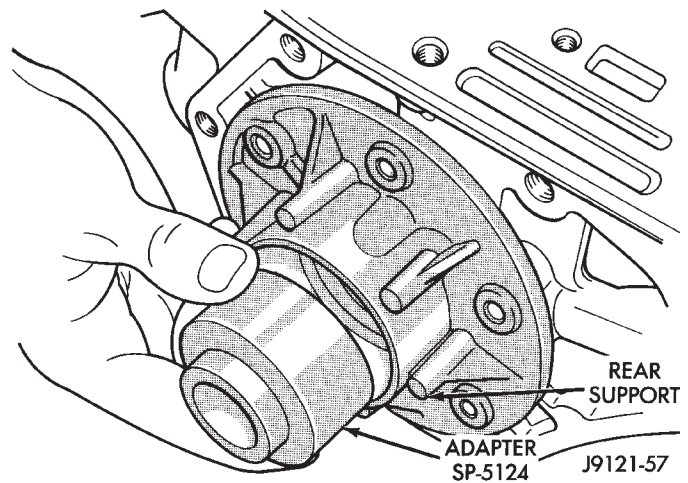

Fig. 42 Positioning Adapter Tool In Rear Support Or Overdrive Piston Retainer—46RH
(7) Insert Adapter Tool SP-5124 into piston retainer (Fig. 42).